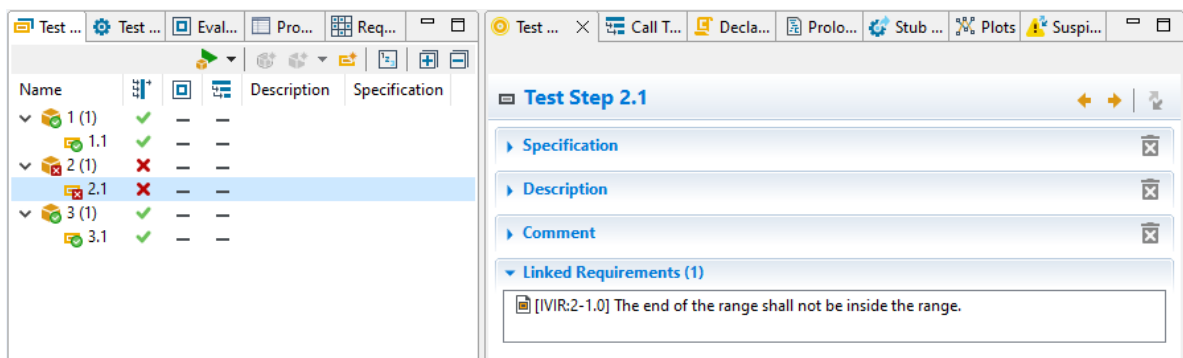

Figure 6.223: Test Definition view within TDE with linked requirement
- Select a test case within the Test Items view (see figure 6.223).